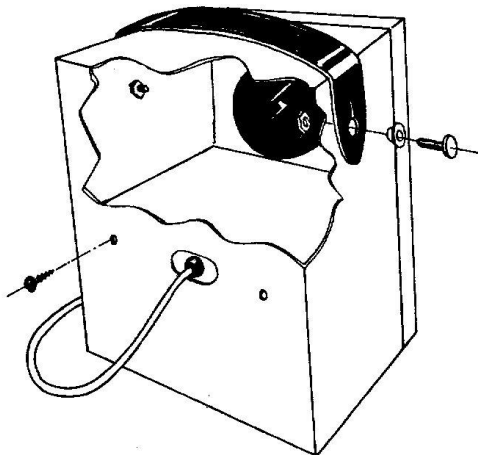

Fig. 19
7) Mount the leather handle on the cabinet using two brass eyelets, two #10-24 screws, and two #10-24 nuts. See Fig. 19 for a detailed drawing of the assembly.